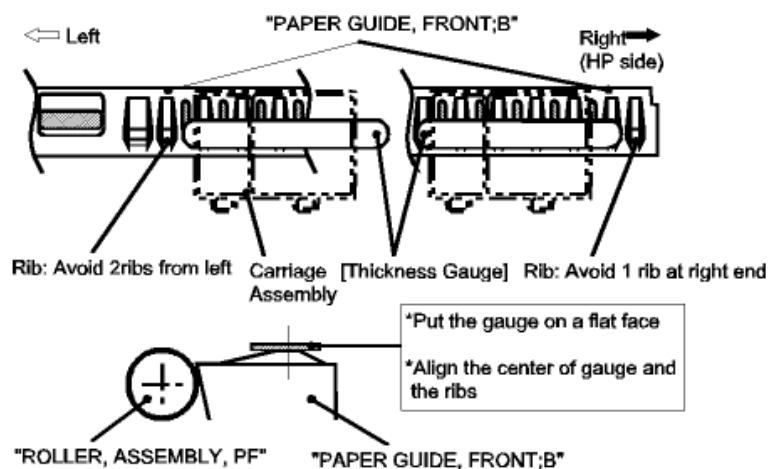

Figure 5-2. Setting the Thickness Gauge
- 4) Move the carriage to the center and set the thickness gauge ( $t=1.14\text{mm}$ ) on the fixed position of Front Paper Guide as you can see in the following figure 5-2.